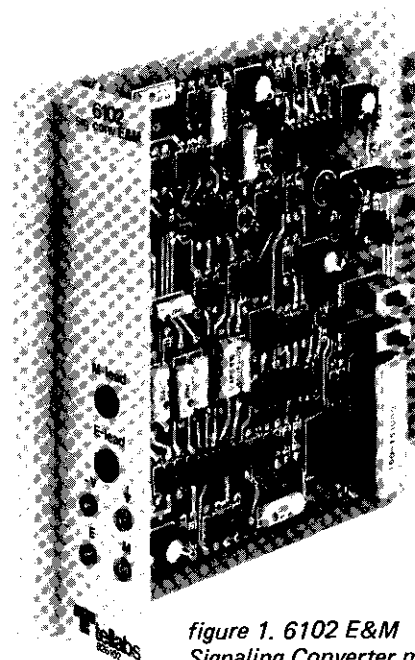

figure 1. 6102 E&M Signaling Converter module
1.01 The 6102 E&M Signaling Converter module (figure 1) provides conversion between conventional E&M loop signaling and the logic-level inter-module E&M signaling required by an associated SF or DX signaling module. On its terminal (loop-signaling) side, the 6102 accommodates Type I, II, or III E&M signaling interface. On its facility side, the 6102 not only provides intermodule E&M signaling but also, in SF signaling applications, controls SF tone-generation and transmit-path-cut functions in the associated SF signaling module.